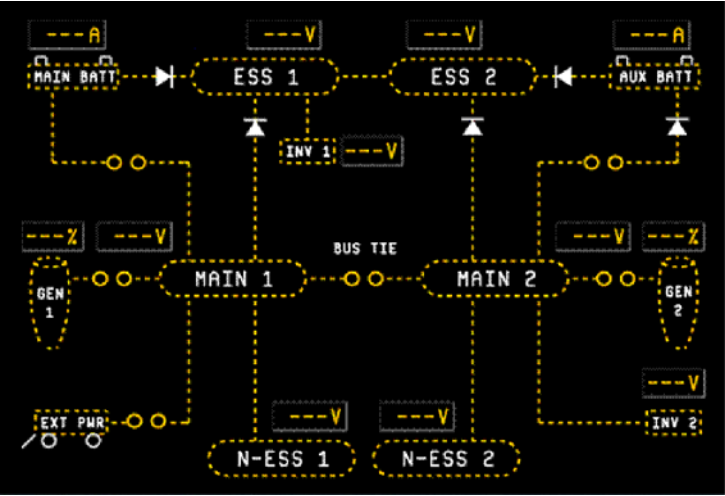

Figure 6-15
- Undetermined** – When a parameter is used to determine the state of a synoptic segment as invalid or no-computed data (NCD), the segment is displayed with amber dashed lines, as shown in Figure 6-15.